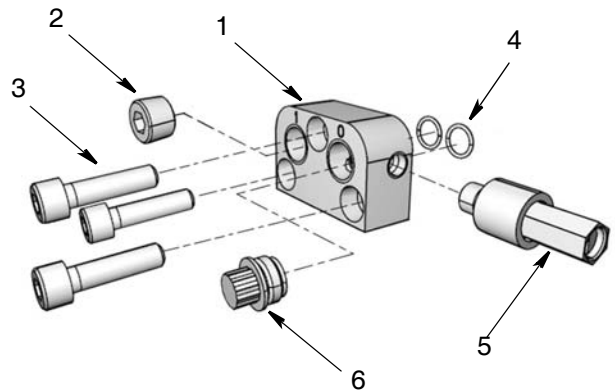

**FIG. 7**
4. Install lubrication line to outlet adapter block port marked "0" (FIG. 7).
5. In the inlet port marked "1" (FIG. 7) install either: